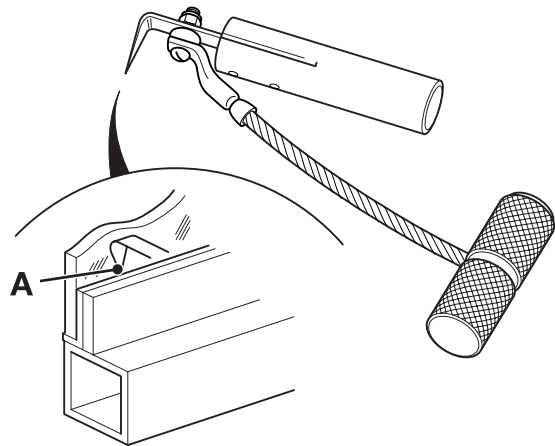

Fig 6. Cut-out Knife
- c Cut-out Knife.** → Fig 6. (□ B-37). The cut-out knife can be used as a left handed or right handed tool.
- ii Make sure that the blade of the knife is against the glass **A**. → Fig 6. (□ B-37).